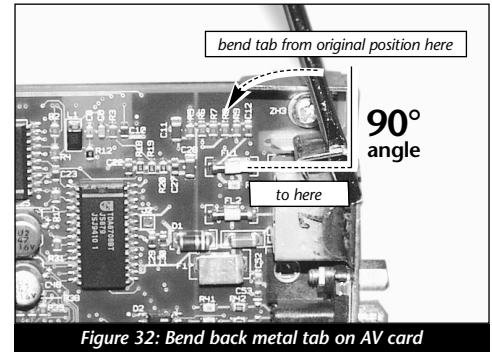
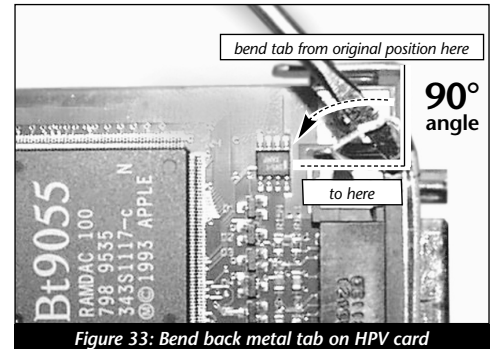

Figure 32: Bend back metal tab on AV card
Figure 33: Bend back metal tab on HPV card
- Before attaching the AV or HPV card to the video adapter board, you need to bend the metal tab 90° at the end of the AV card (**Figure 32**) or HPV card (**Figure 33**) with a small flatblade screwdriver so it fits in its new location.